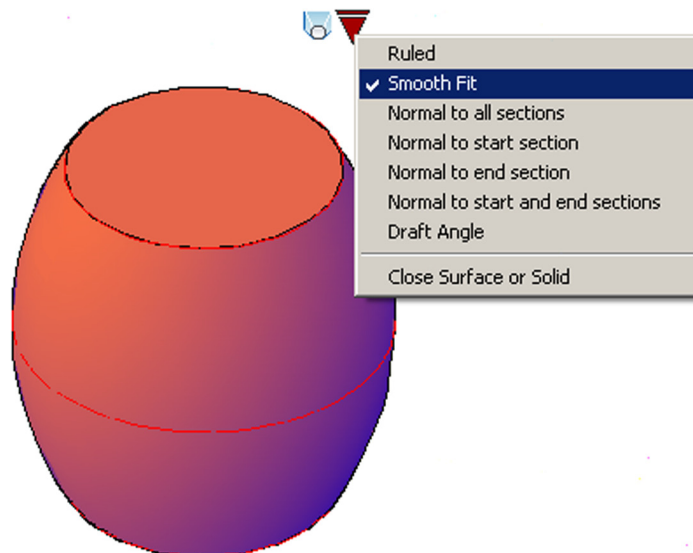

FIGURE 24.24
Step 4. Press Enter. The loft is performed and the barrel is visible if you are in the shaded mode. You also see a prominent down arrow, which when pressed, reveals a menu to fine-tune the loft (Figure 24.24). Experiment with the various choices to see the effect on the overall shape. In almost all cases, we want a smooth fit (the default), so after experimenting, restore that choice.